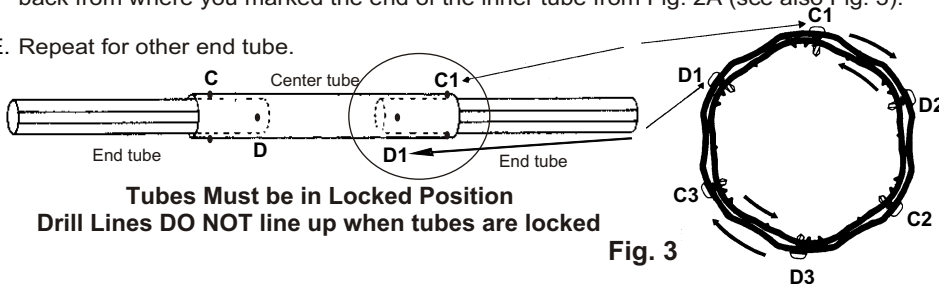

Fig. 3
- B. Lock tubes together by rotating the center tube in the opposite direction to end tube. HOLD TUBES LOCKED WHILE YOU INSTALL FIRST SELF-DRILLING SCREW ON A DRILL LINE, 1" (2.5 cm) back from end of center tube at Location "C1" (see Fig. 3 & 4).
- C. Place 2 more self-drilling screws at Location "C2" & "C3" - 1 screw at every second drill line around tubes (see Fig. 3).
- D. At "D" locations install 3 screws around the center tube at every second drill line, 1" (2.5 cm) back from where you marked the end of the inner tube from Fig. 2A (see also Fig. 3).